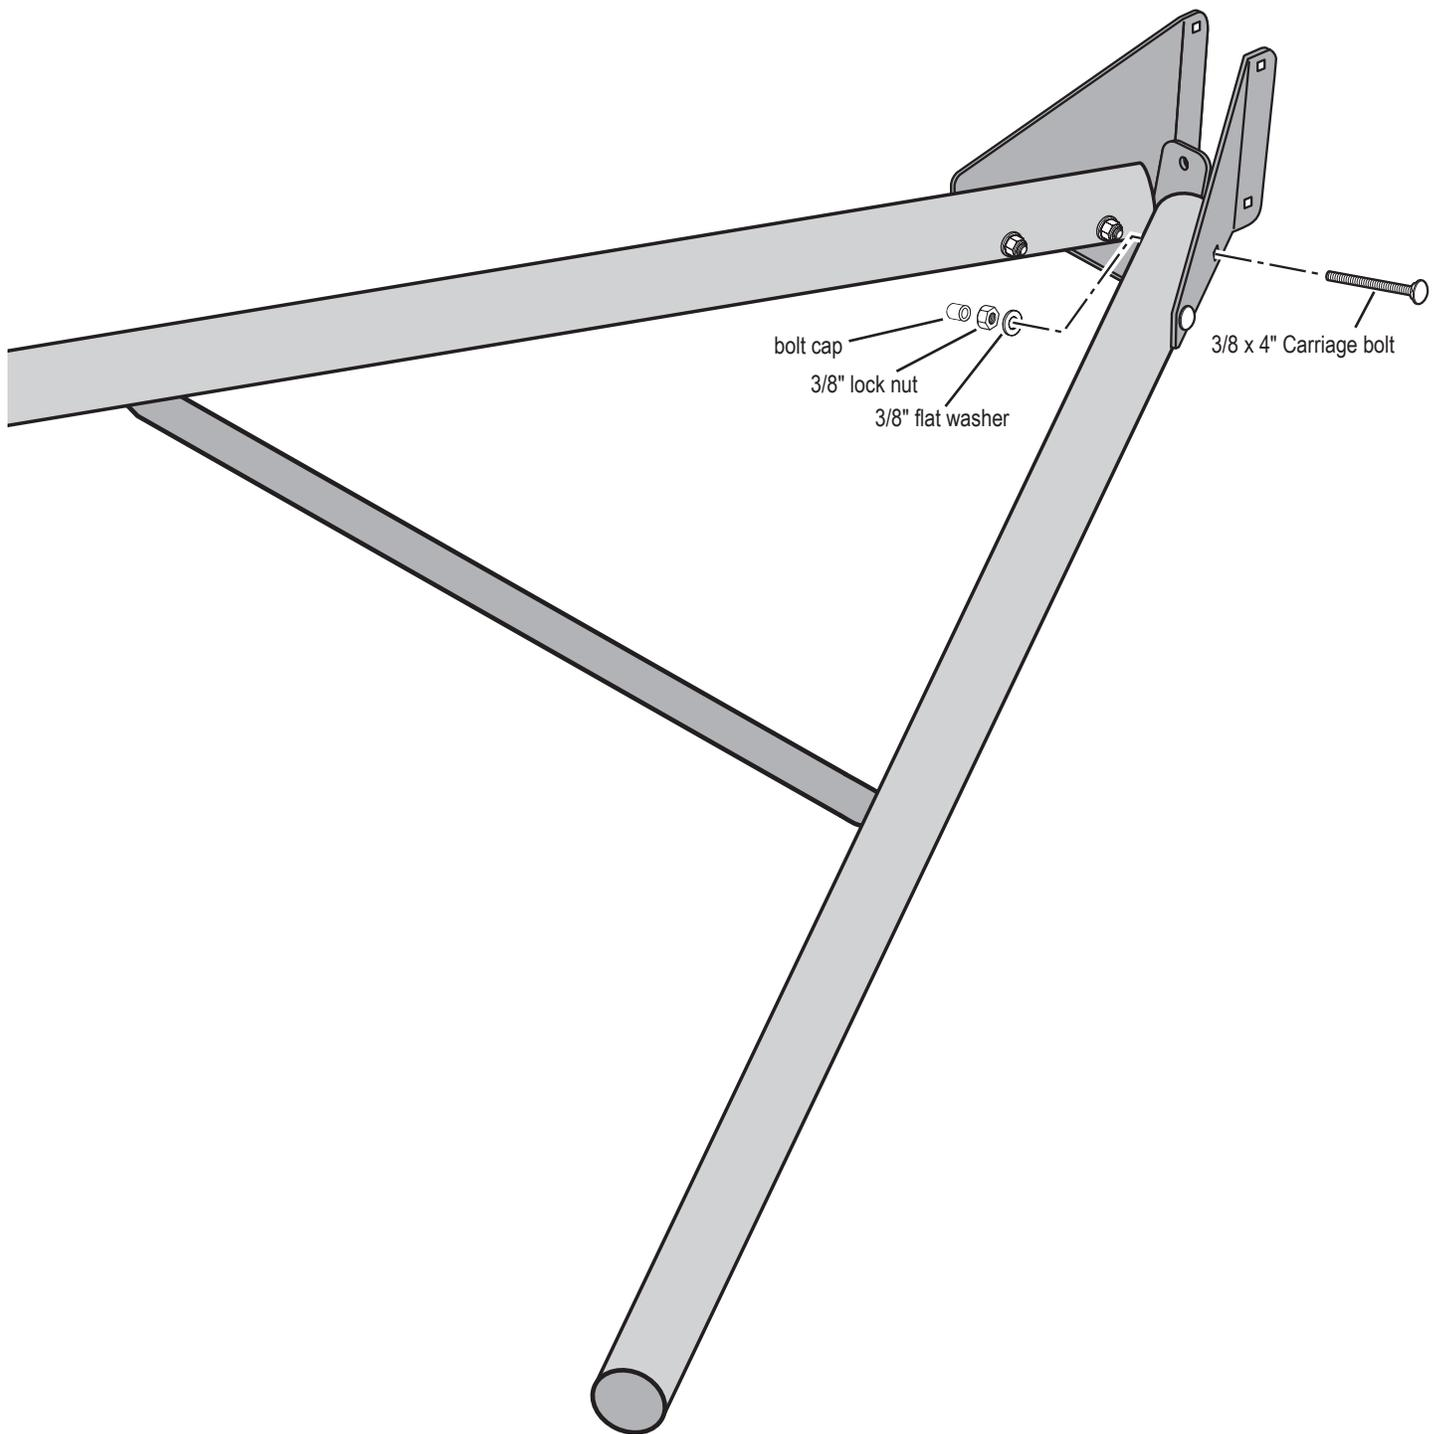

**Fig. 2**
3. Securely attach the L-bracket to the posts as shown. **Fig. 2.**